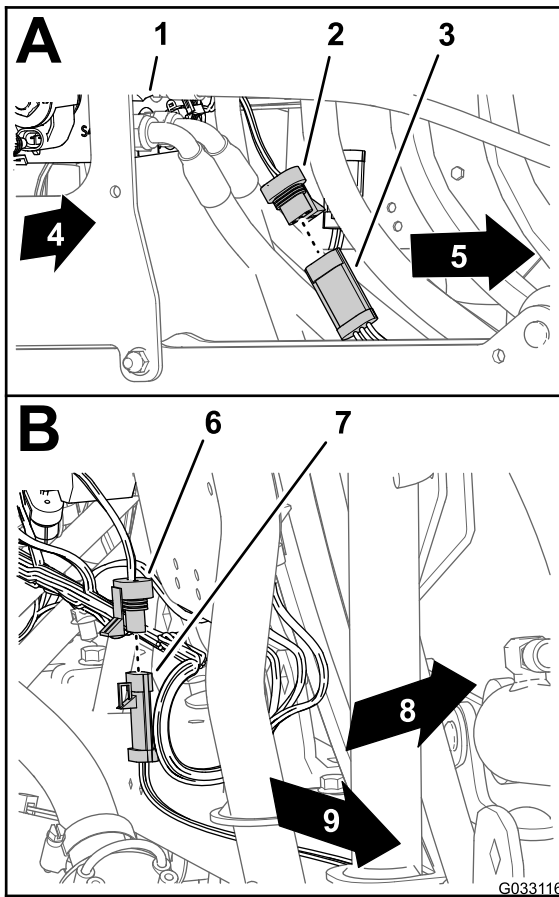

Figure 178
1. Connect the 3-socket connector of the sonic boom wire harness to the 3-pin connector of the cable for the right ultra-sonic sensor (Figure 178).
2. Connect the 3-socket connector of the sonic boom wire harness from the 3-pin connector of the cable for the left ultra-sonic sensor (Figure 178).